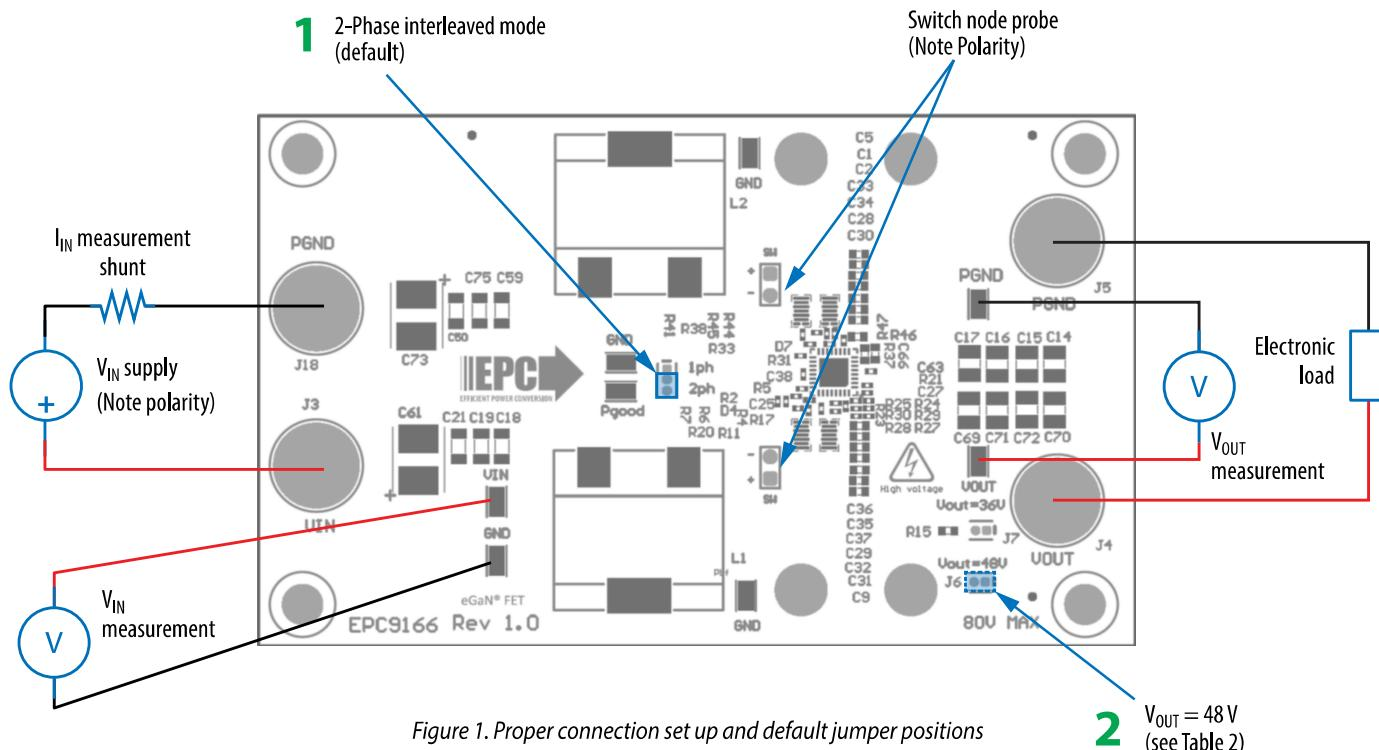

Figure 1. Proper connection set up and default jumper positions
Refer to figure 1 for proper connect and measurement setup and follow the procedure below:
1. Configure the jumpers for phase mode the output voltage setting per figure 1 and table 2. The phase mode jumper J8 sets the 180° phase shift between the two phases in its default location (1). The output voltage is set by jumper J6 and J7 and the default location (2) sets the output voltage at 48 V.
3. With power off, connect a programmable load as needed between VOUT (J4) and GND (J5) as shown in figure 1.